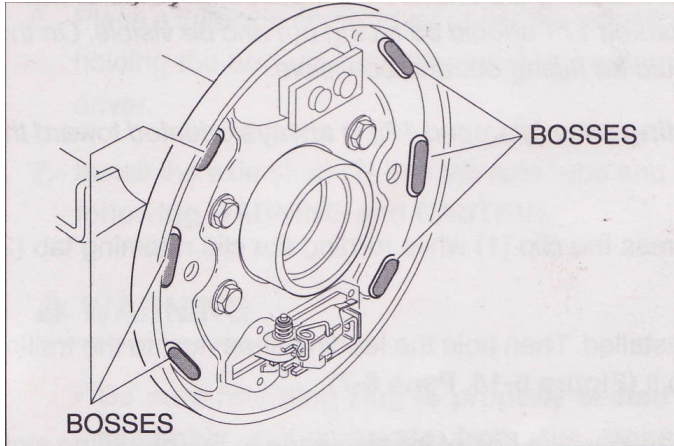

Figure 6-9
4. Use a small brush to carefully apply a light coat of white lithium grease (Dow Corning BR2-Plus or equivalent) on each of the six raised bosses on the brake backing plate (Figure 6-9).